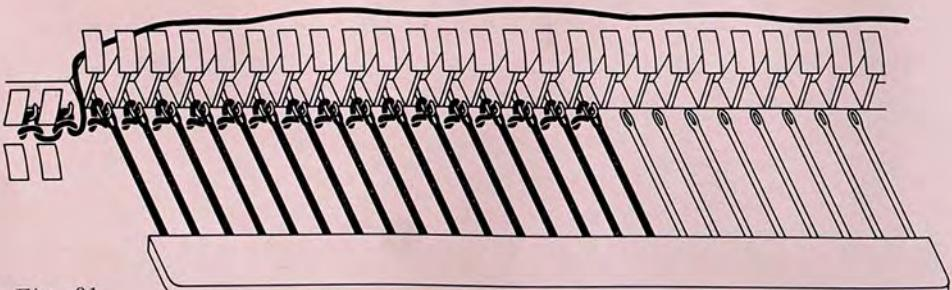

Fig. 91
At right take  $\frac{1}{4}$  of back sts (16) on decker comb : Place yarn behind sinkers, put 16 sinkers in neutral-position, hook in comb, pull forwards and push backwards, holding knitting lightly by hand underneath the machine, fig. 91.
Before knitting the leg you have to transfer 16 sts at each end from back to front as shown in figs 91 to 96. The length of leg depends on size required. Our suggestion is for size 8 $\frac{1}{2}$  to 9 with a length of 50 rows tubular, which means 100 rows indicated by RC.